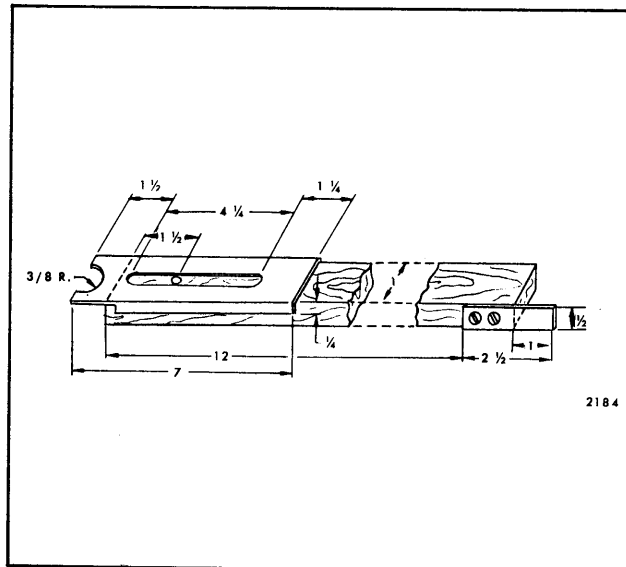

Fig. 13-10—Spacer Stick Dimensions
24. Spacer sticks may be fabricated as shown in Figure 13-10.